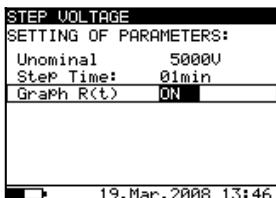

Fig. 24 Set-up menu in Step Voltage measurement
- Press the SELECT key, Set-up menu appears on display, see the **Fig. 24**.